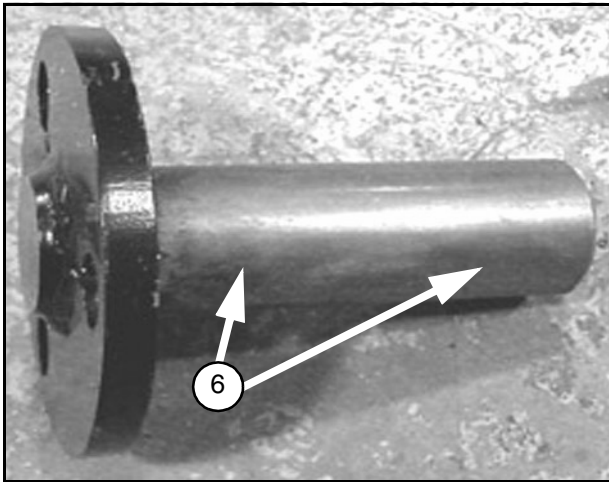

Figure 26.
4. Apply a coat of anti-seize grease to a portion of the dead shaft (6) that is inserted into the bearing as shown in Figure 26.